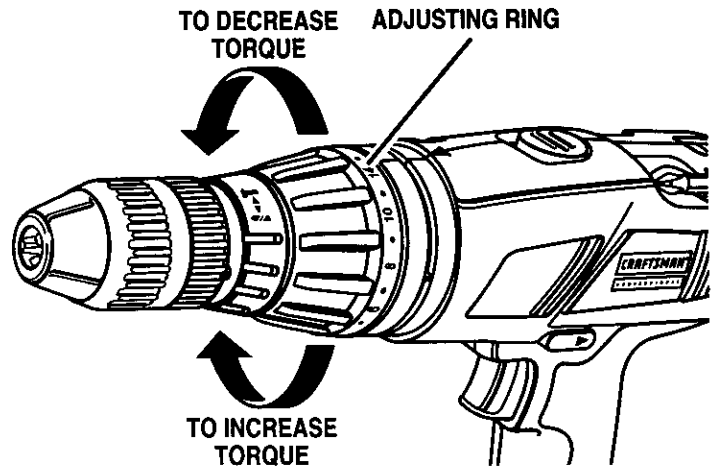

Fig. 15
- Identify the twenty four torque indicator settings located on the front of your drill. See Figure 15.